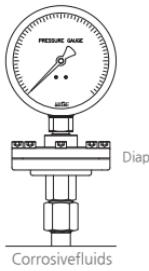

Figure. 1
- 1) If the fluid contains any corrosive agents, it will directly deliver to the Bourdon Tube, and it could damage the tube. Therefore, it is recommended that the user chose "Diaphram Seal Type" pressure gauge. (Figure. 1)